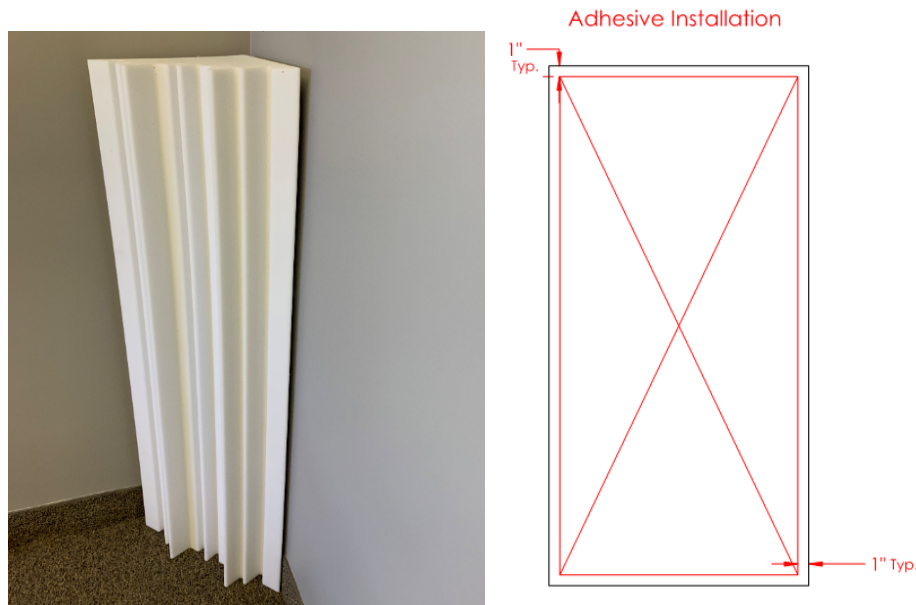

Figure 1: Construction Adhesive Application
- 5) To maximize bonding process, apply a ¼" bead of adhesive to each of the two (2) sides of the trihedral corner trap, around the full perimeter of the trap, applied to within 1" of trap edges. Use the diagram shown in Figure 1 below as a guide.
- 6) Apply a ¼" bead of adhesive from opposite corners through the center of the trap, forming an "X". Use the diagram shown in Figure 1 below as a guide.
- 2) Cut end of adhesive tube to produce a ¼" bead. Apply a ¼" bead of adhesive from opposite corners through the center of the trap, forming an "X". Use the diagram shown in Figure 1 (above) as a guide.
- 3) Fix two (2) L brackets on the wall at the correct height to support the bottom edge of the bass trap, located on adjacent walls approximately 10 inches out from the corner.
- 5) Push bass trap between the brackets. Fix four (4) pan-head wood screws into the plywood, MDF, or similar, edging of the trap.